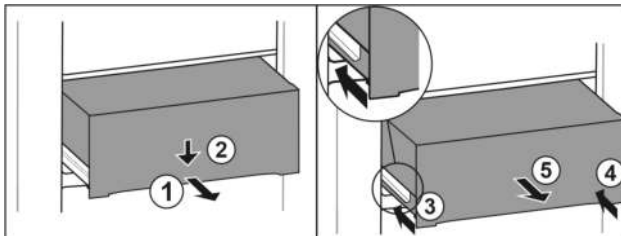

Fig. 114
- Pull out drawer half-way. Fig. 114 (1)
- Push the drawer down at the front. Fig. 114 (2)
- Push the left rail in by about 2 cm. Fig. 114 (3)
- Push the right rail in by about 2 cm. Fig. 114 (4)
- Remove drawer to the front. Fig. 114 (5)